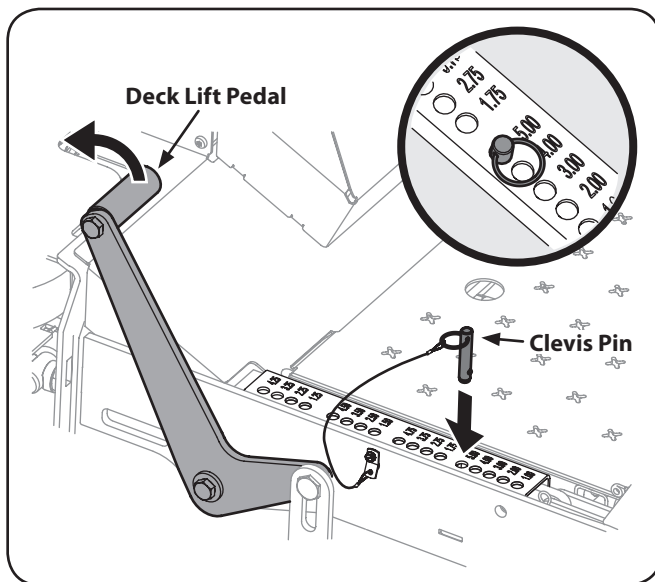

Figure 3-1
2. Use the deck lift pedal to raise the deck to its highest position and secure in place with the clevis pin attached to the tractor. See Figure 3-1.